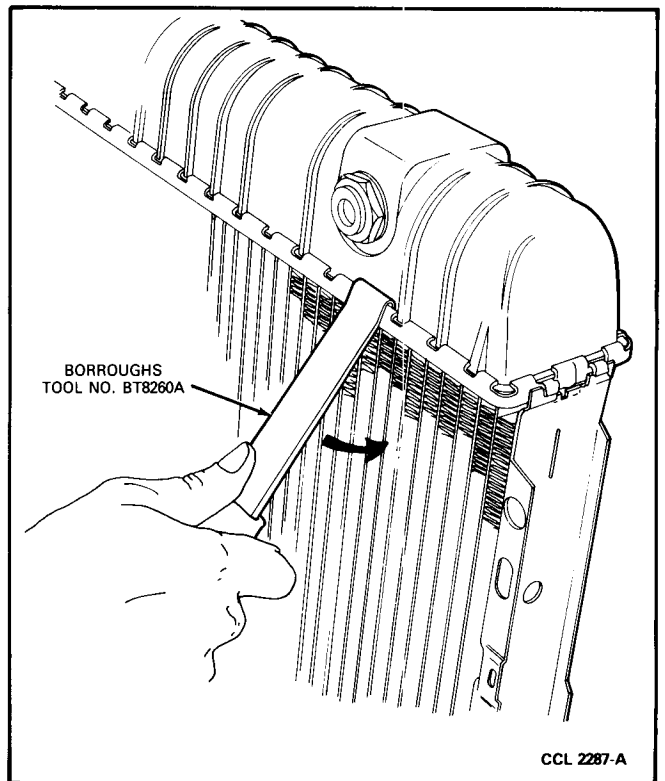

FIG. 10 Opening Header Tabs Using Burroughs Tool
1. Insert the end of Tool BT-8260 or equivalent between the end of the header tab and the tank. Then, push the tool handle down towards the core to bend the tab away from the radiator tank (Fig. 10). **Do not open the tabs more than is necessary for tank removal.**